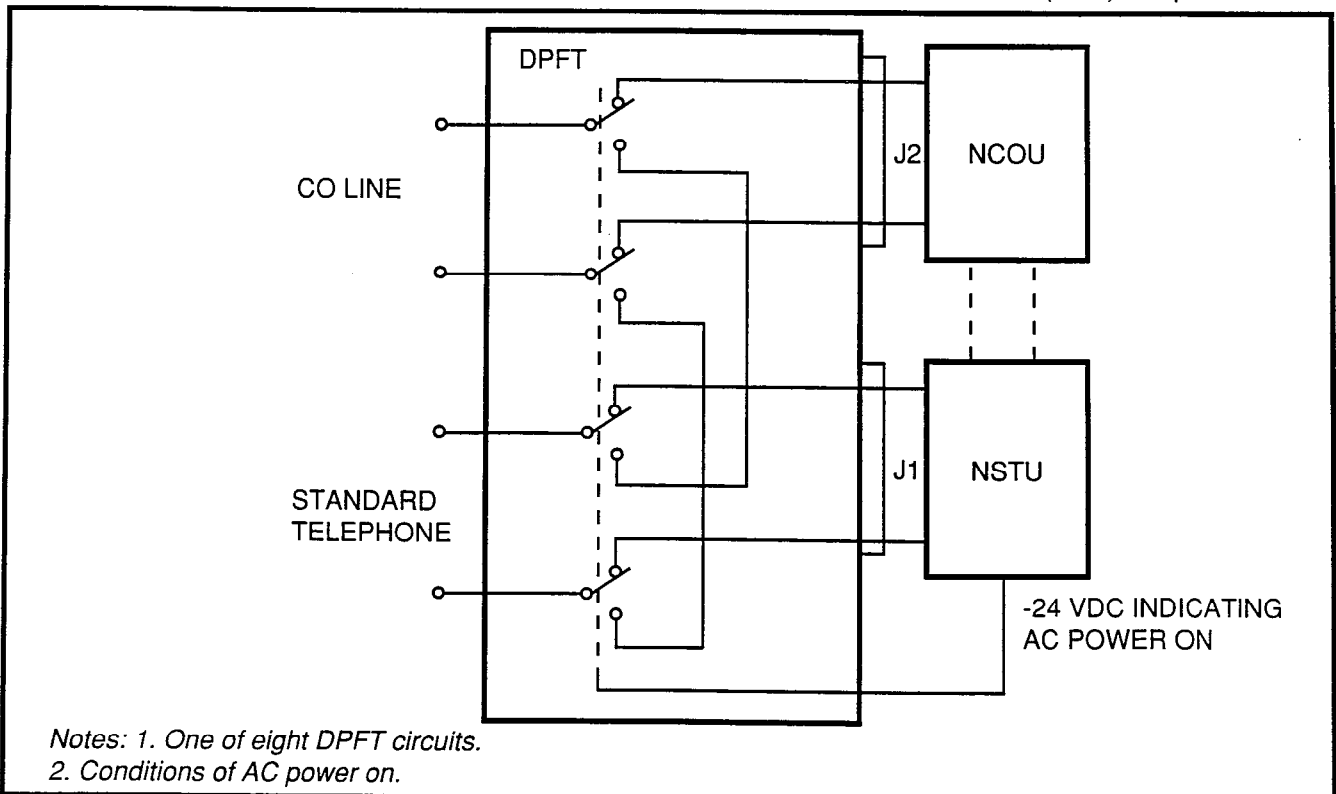

FIGURE 2-6—DPFT FUNCTIONAL DIAGRAM
5.01 The DPFT is a self-contained module that mounts externally to the basic cabinet, typically on the MDF. Connections to the trunks, stations and basic cabinet are made via two 50-pin amphenol-type connectors (J1 and J2) on the DPFT (see functional diagram in Figure 2-6).